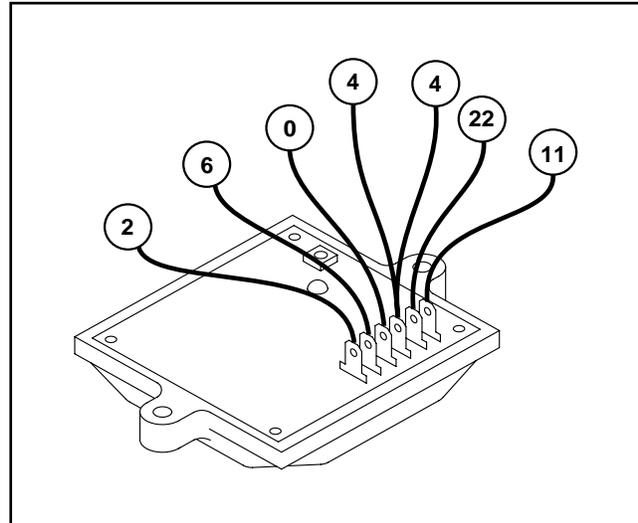

Figure 2. Voltage Regulator
1. Disconnect Wire 4 from the voltage regulator, 3rd terminal from the top. See Figure 2.
4. Disconnect Wire 2 from the voltage regulator and connect one meter test lead to that wire. Disconnect Wire 6 from the voltage regulator and connect the other meter test lead to that wire. Wires 2 and 6 are located at the bottom two terminals of the voltage regulator (see Figure 2).
7. Disconnect Wire 11 from the voltage regulator and connect one meter test lead to that wire. Disconnect Wire 22 from the voltage regulator and connect the other meter test lead to that wire (both wires are located at the top two terminals of the voltage regulator, see Figure 2).